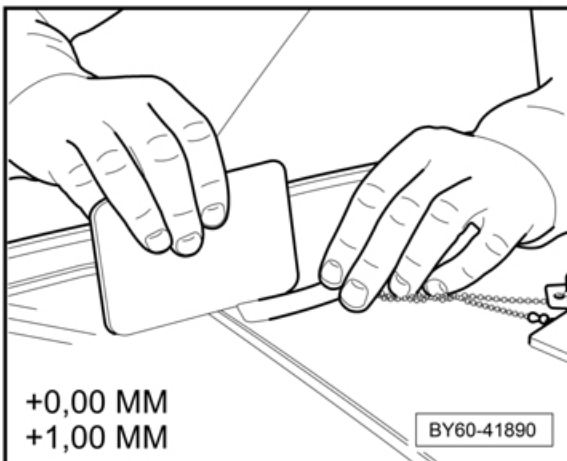

Figure 6
8. Set the rear edge of the panel level (0mm) or up to 1mm ABOVE the surface of the car body concentrate on achieving this measurement towards the outer edges of the panel (see Figure 6)